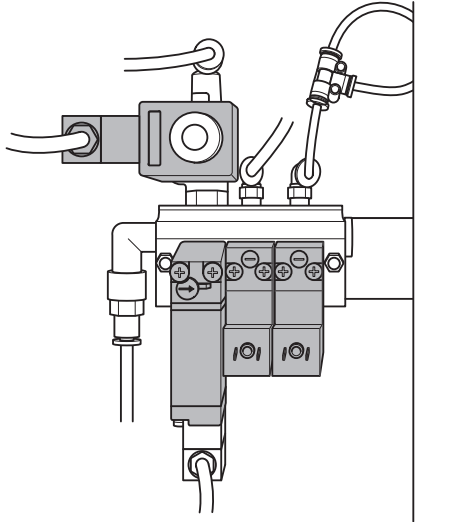

Fig. 40: Stopping the air supply behind Y11/Y8
- Shut off the compressed air supply on the pneumatic assembly, as shown in Fig. 40:.